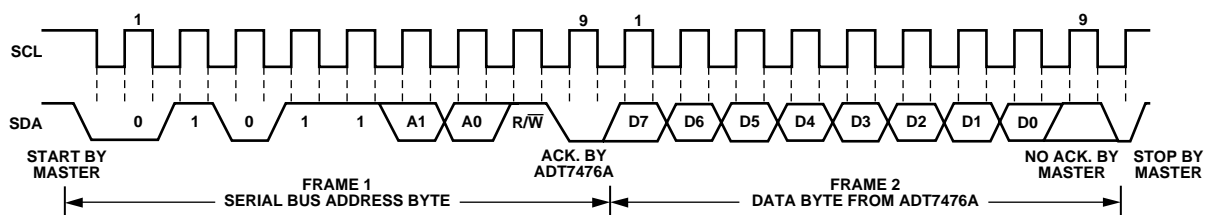

Figure 20. Reading Data from a Previously Selected Register
A read operation is then performed consisting of the serial bus address; R/\overline{W} bit set to 1, followed by the data byte read from the data register (see Figure 20.)
2. If the address pointer register is already known to be at the desired address, data can be read from the corresponding data register without first writing to the address pointer register (see Figure 20).